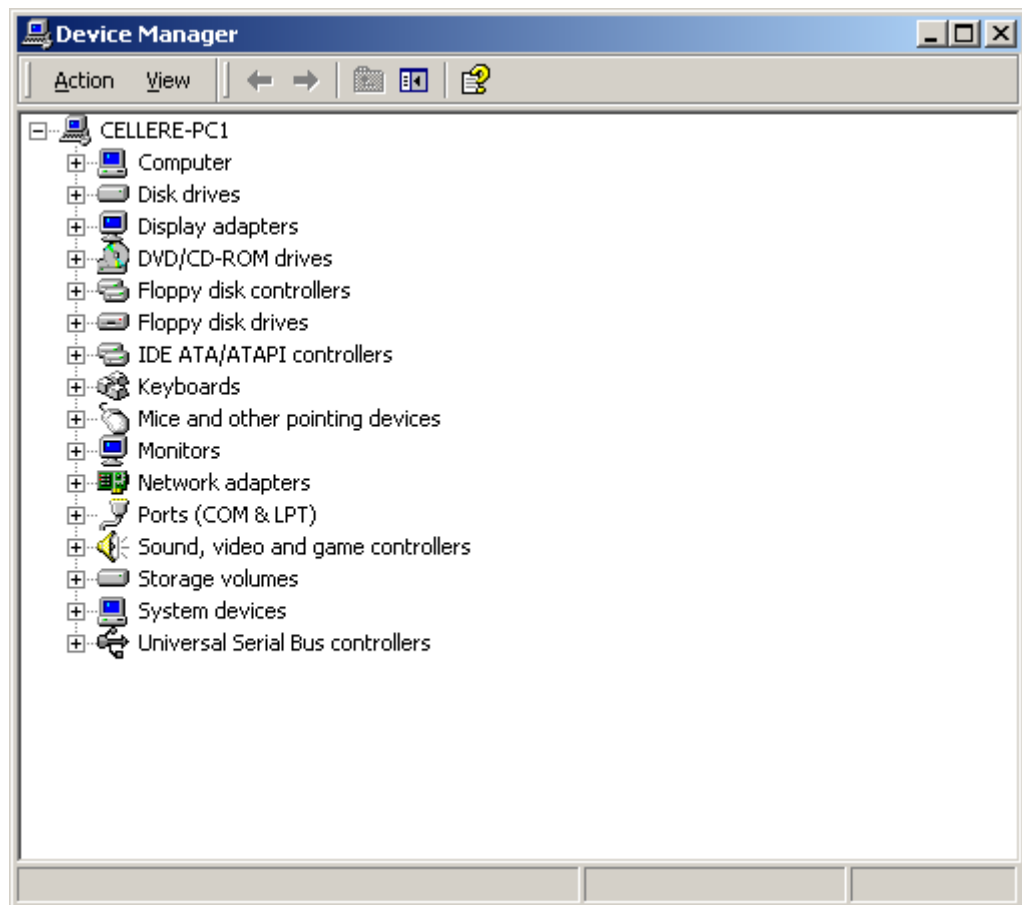

Figure 20: Device Manager Window
13. Click Device Manager. The Device Manager window appear (Figure 20).